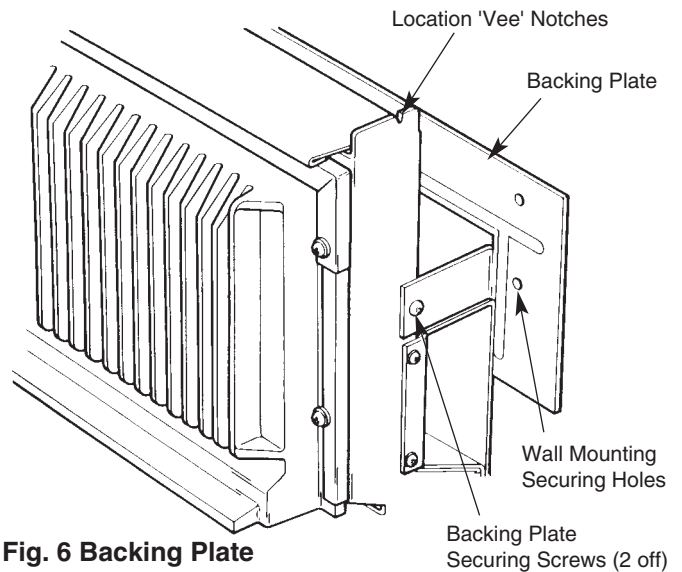

Fig. 6 Backing Plate
- Fit the fire backing plate to the fire using the M5 x 8mm thread forming screws provided. The backing plate may be screwed to the wall for extra support if necessary (Fig. 6).
- Fit the fire backing plate to the fire using the M5 x 8mm thread forming screws provided.(Fig. 6)
- Push the fire backwards until the fire backing plate touches the surround or finished wall face. Mark the position of the two lower securing holes in the fire backing plate (Fig. 6).
- (b) Lift the outer case over the heat exchanger and locate the two 'vee' notches in the top of the case into the 'vee' notches at the top of the heat exchanger support legs (Fig. 6).